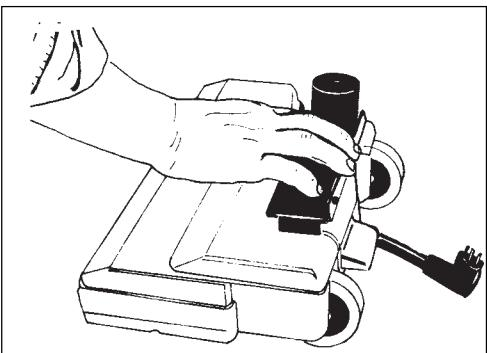

Figure 8
- b. Push the pivot bracket toward the front of the lower housing until it locks in position. See figure 8.
- c. There are two hinges with slots on the bottom of the tank housing (1).
- b. Pousser le support pivotant vers l'avant de l'ensemble inférieur jusqu'à ce qu'il se bloque. Voir figure 8.